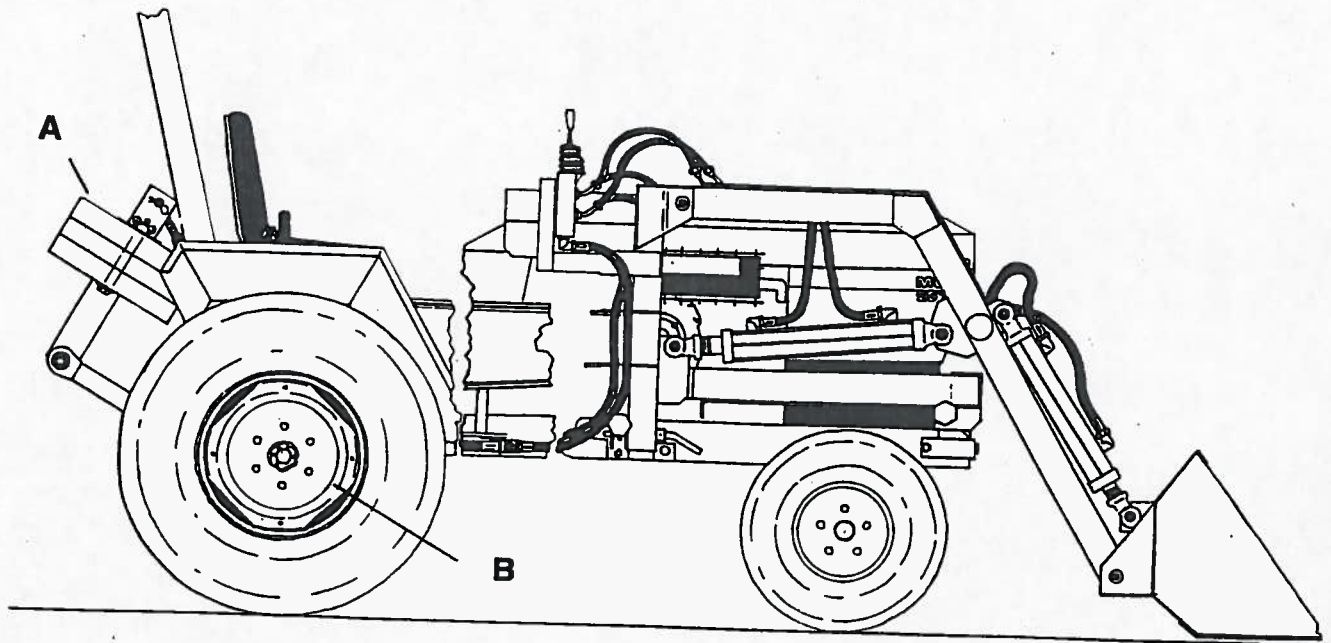

Figure 1
Following are the recommended counter weights for each tractor to obtain satisfactory performance. Additional weights may be needed depending upon the tire size. See Figure 1.
1. Connect the hydraulic lines as shown in Figure 1.